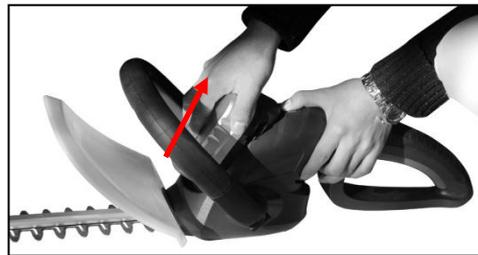

Fig. 9
Release the battery pack by pressing the Lock / Release button (5) with one hand and pull out the battery pack with the other hand as shown in Fig 9.